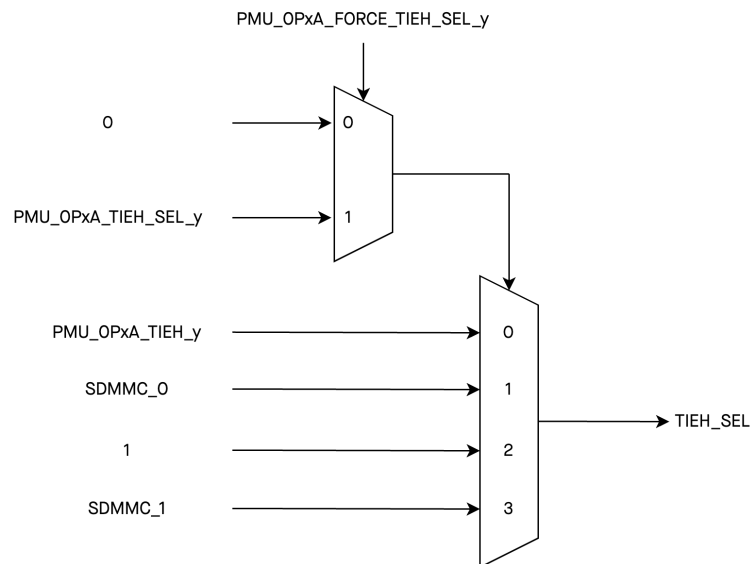

Figure 14.4-4. VO2/3/4 Mode Control
- The mode control for VO2/3/4 is shown in Figure 14.4-4. In the figure, TIEH_SEL on the right being 0 selects LDO mode; being 1 selects bypass mode.